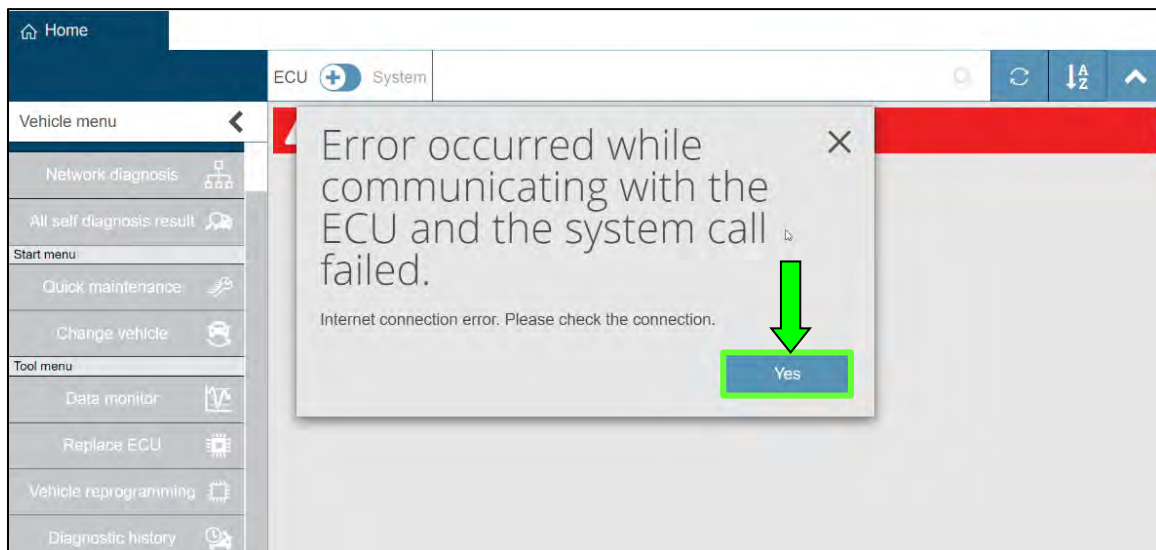

Figure 28
31. If the error shown in Figure 28 is present, select **Yes**, close C4, reopen and allow system call to be performed.